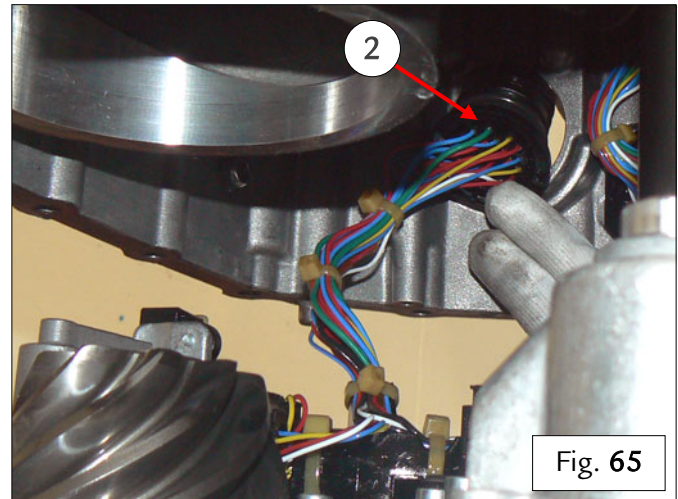

Fig. 65
- From inside the differential housing, push the SAP connection (2) through the relative hole, fastening in the correct position – Fig. 65.